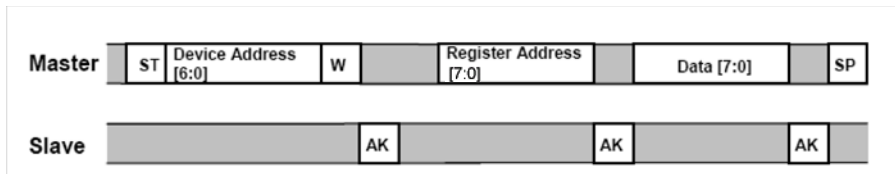

Figure 9. Single Byte Write - The Master (MCU) is writing to a single register of the MMA7455L
To start a write command, the Master transmits a start condition (ST) to the MMA7455L, slave address (S1D) with the R/W bit set to "0" for a write, the MMA7455L sends an acknowledgement. Then the Master (MCU) transmits the 8-bit address of the register to write to, and the MMA7455L sends an acknowledgement. Then the Master (or MCU) transmits the 8-bit data to write to the designated register and the MMA7455L sends an acknowledgement that it has received the data. Since this transmission is complete, the Master transmits a stop condition (SP) to the data transfer. The data sent to the MMA7455L is now stored in the appropriate register. See Figure 9.